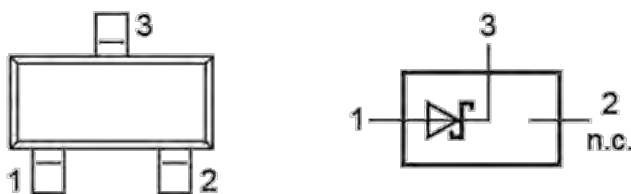

Figure 9 — Sample Device with no internal die connection
5. *NoDieConnection* is where a terminal has no internal connection, as shown in Figure 9.